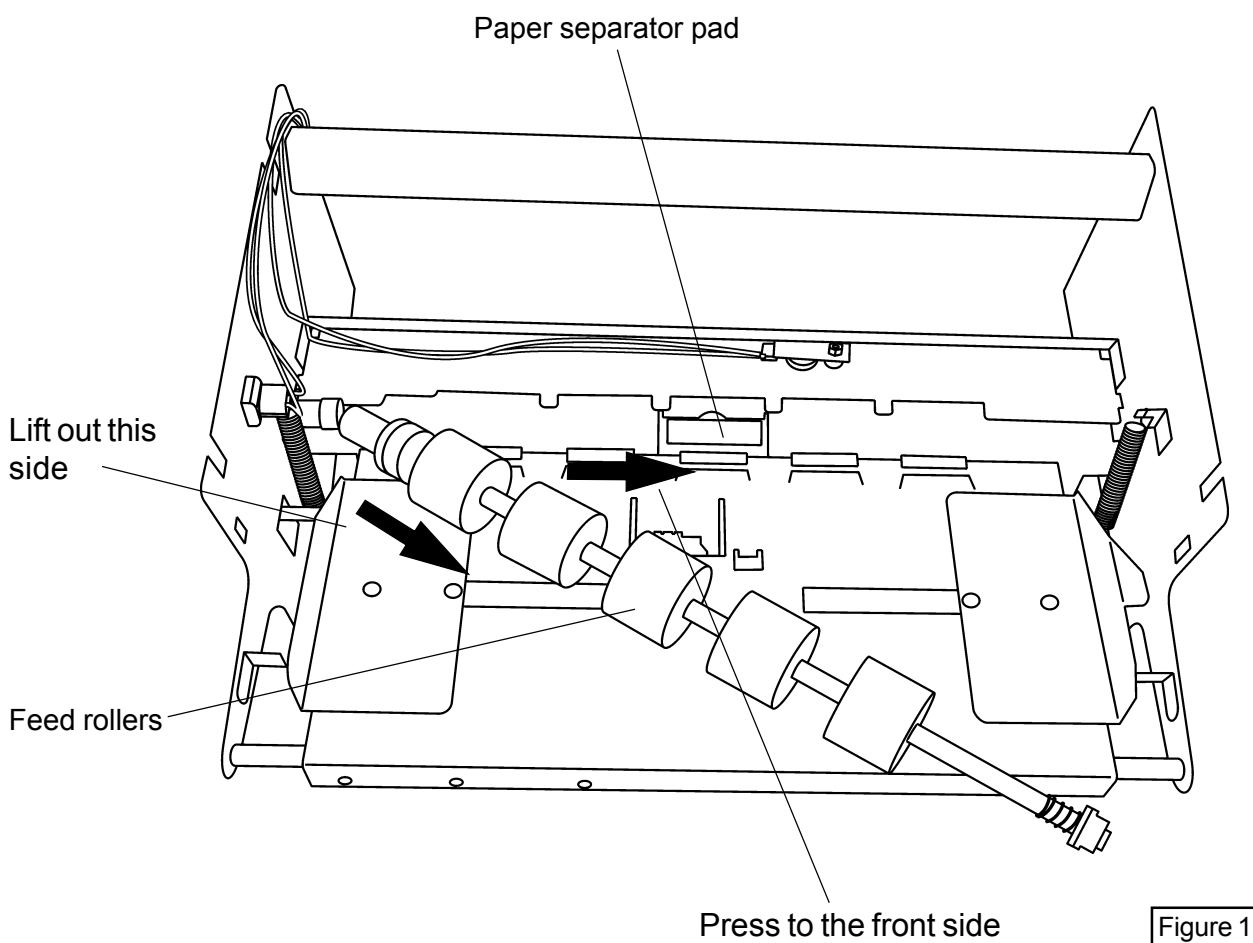

Figure 1
3. Remove the Paper separator pad by lifting it out (with a small screwdriver) from the holder according to figure 1.